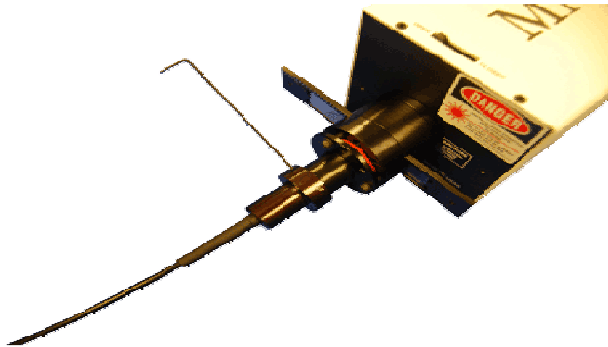

Figure 3-8: Locking Fiber Lock
d) Lock the Fiber Lock set screws (Figure 3-8).